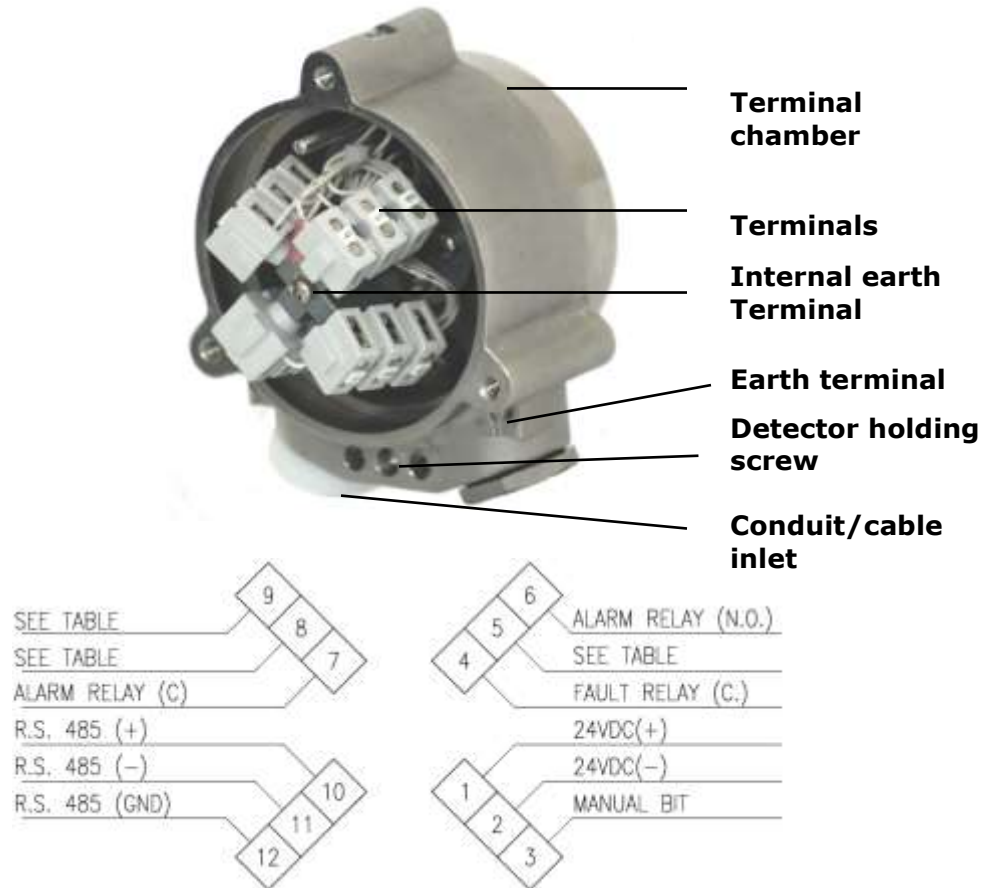

Figure 6: Detector with Cover Removed
This section describes how to connect the electric cabling to the detector (Figure 6).
- 1** Connect the wires to the required terminals on the terminal board according to the wiring diagram (Figure 6) and Table 13.
- 4** Check the wires for secure mechanical connection and press them neatly against the terminal to prevent them from interfering while closing the back cover (Figure 6).